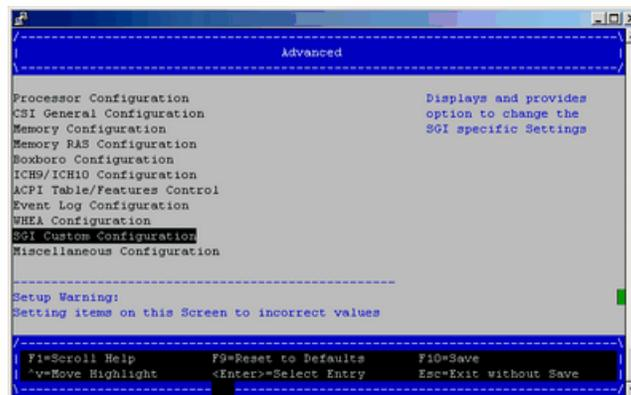

Figure 4-8 Device Manager Advanced Screen
- From the **Advanced** screen, select **SGI Custom Configuration**, as shown in Figure 4-8 on page 57.